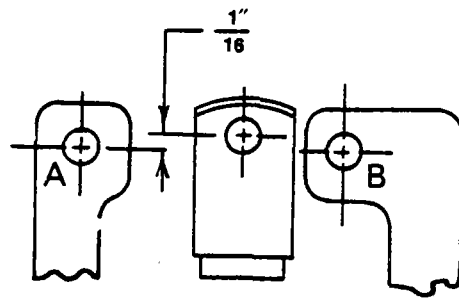
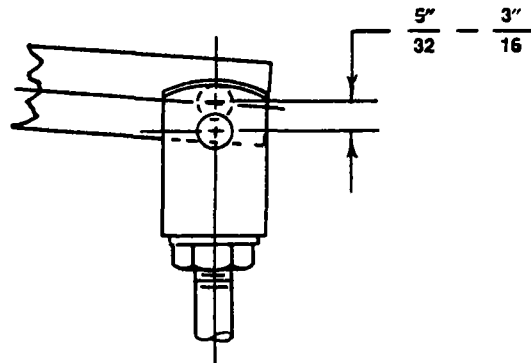

Fig. 12 Plug Stem Adjustment
Fig. 13 Piston Rod Clevis Adjustment
Calibration (Figs. 12, 13, 14 & 15)
1. Tighten the packing. It is necessary that this be done before commencing calibration. Loosen locknut (103) and, preventing plug stem clevis (104) from rotating, turn plug stem with a screwdriver until clevis is positioned as shown in figure 12. Retighten locknut (103).
2. Replace lever arm stop (122). Install lever arm (113) with spring clamp hole up and insert pins (105) through hole A and plug stem clevis: *Note: coat pins lightly with a film of Molykote G lubricant.*
3. Apply 50 psi air to the valve inlet and press down on the lever to check valve leakage. Be sure that the lever does not contact the lever arm stop (122). If the valve does not shut off, remove clevis pin (105), loosen locknut (103) and screw plug stem down. One full turn will change plug position by .042". Retighten locknut (103).
4. Adjust piston rod clevis for 5/32" to 3/16" gap between holes to obtain the initial actuator spring load. (See figure 13.)
5. Reassemble force balance spring (114) and positioner spring clamp (115) to the positioner and lever arm. Pipe air supply and instrument signal lines to the positioner and set supply pressure to 35 psi. Apply sufficient output pressure to move the piston rod clevis up slightly. Connect clevis to lever arm with pin (124). *Note: Coat the pin with Molykote G lubricant before inserting.*
7. Apply minimum value of instrument signal range (3 psi for 3-15 signal). Turn take-up screw (116) until positioner output just begins to move the lever arm. Tighten locknut (117).
8. If the valve action is to be reverse (air-to-open), calibration is complete. Replace cover and adjust indicator plate (127).
9. If valve action is to be direct (air-to-close), apply sufficient output pressure to move the lever arm up slightly and remove pin (124). Remove air pressure from actuator. With the strain off pins (105), remove pin from hole A and install in hole B. Reapply air pressure and replace pin (124) and cover. To change valve action without using air pressure, refer to page 2.